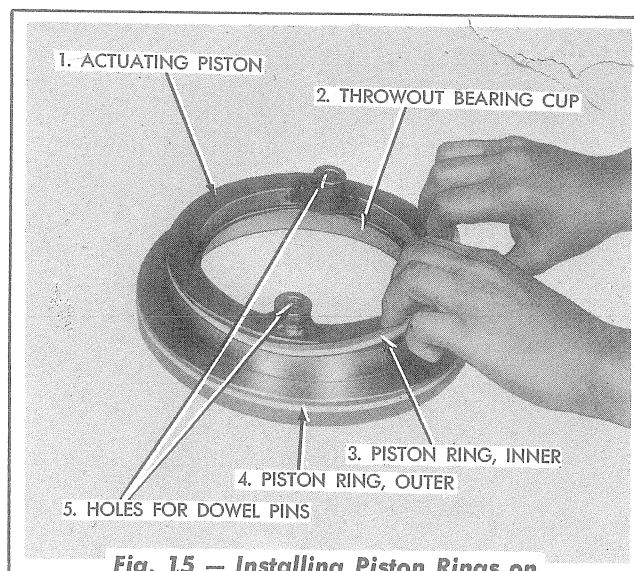

Fig. 15 — Installing Piston Rings on Actuating Piston
- b. Place the new piston rings in a container of water heated to $140^{\circ} - 160^{\circ}$ F. for about 15 minutes, then install the piston rings in position in the actuating pistons as shown in Fig. 15. Use care when installing the rings and stretch the rings only enough to permit their installation. **CAUTION:** The piston rings contain trifluorochloroethylene resin, or "Teflon." Do not destroy used piston rings by burning, as the fumes from burning "Teflon" are very toxic when inhaled.